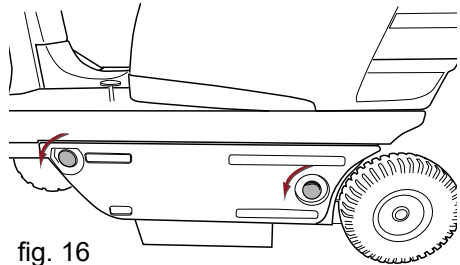

fig. 16
- Unscrew the knob and open the door on the left of the machine (fig. 16).